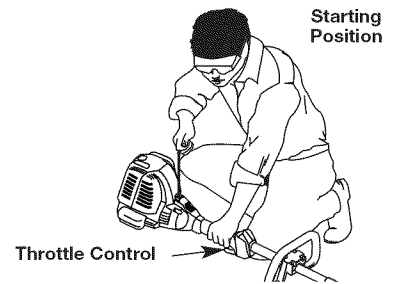

Fig. 11
WARNING: Avoid accidental starting. Make sure to be in the starting position when pulling the starter rope (Fig. 11). To avoid serious injury, the operator and unit must be in a stable position while starting.
4. With the unit in the starting position, **do not squeeze the throttle control** (Fig. 11). Pull the starter rope in a controlled motion until unit starts.
4. With the unit in the starting position (Fig. 11). Place the Plug-In Power Start or Power Bit Start into the back of the unit. Refer to Operation section of the Plug-In Power Start or Power Bit Start operator's manual.
5. **Do Not squeeze the throttle control**, press and hold the Plug-In Plug-In Power Start or drill's ON (I) button for 2 second intervals until unit starts.